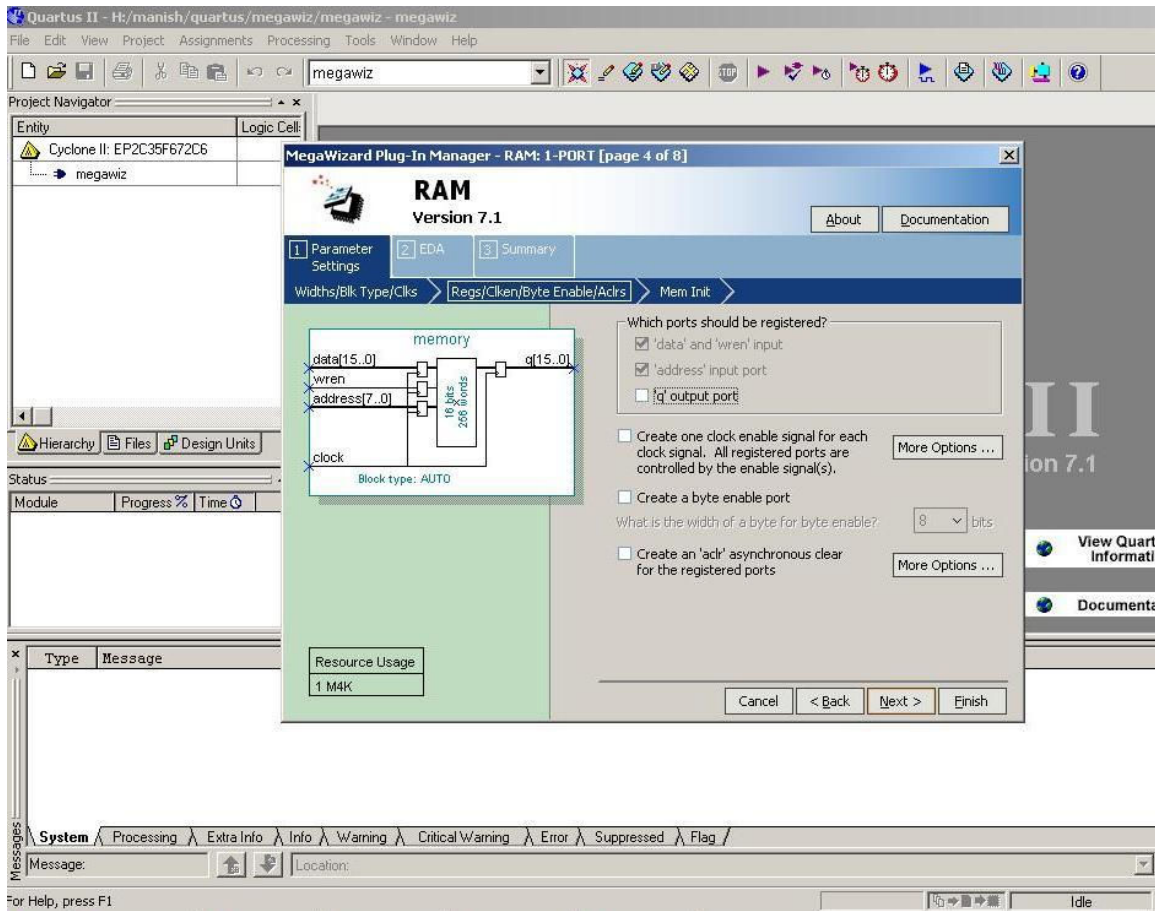

Fig. 4
4. Page 4 will appear as shown in Fig 4 . Uncheck 'q' output port . Click Next.